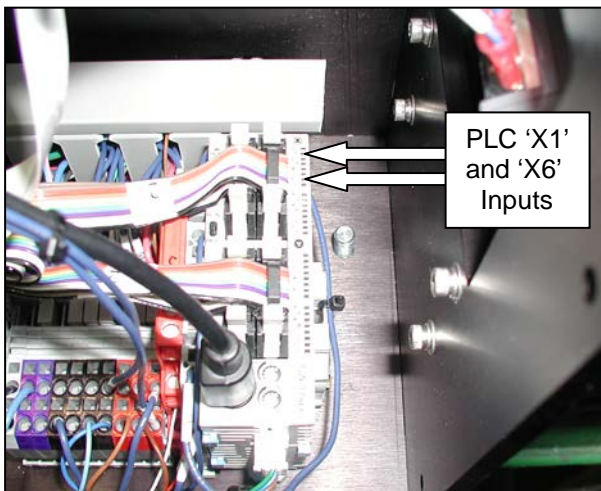

Figure 3-344. The PLC
3. Locate the PLC. While watching the inputs labeled 'X1' and 'X6', depress each side of the stripper plate. When pressing the left side of the stripper plate, the input light for 'X1' should turn on. When pressing the right side of the plate, the input light for 'X6' should light up. If the PLC does not illuminate when either sensor is activated, the sensor is faulty and needs replacement (Figure 3-344).